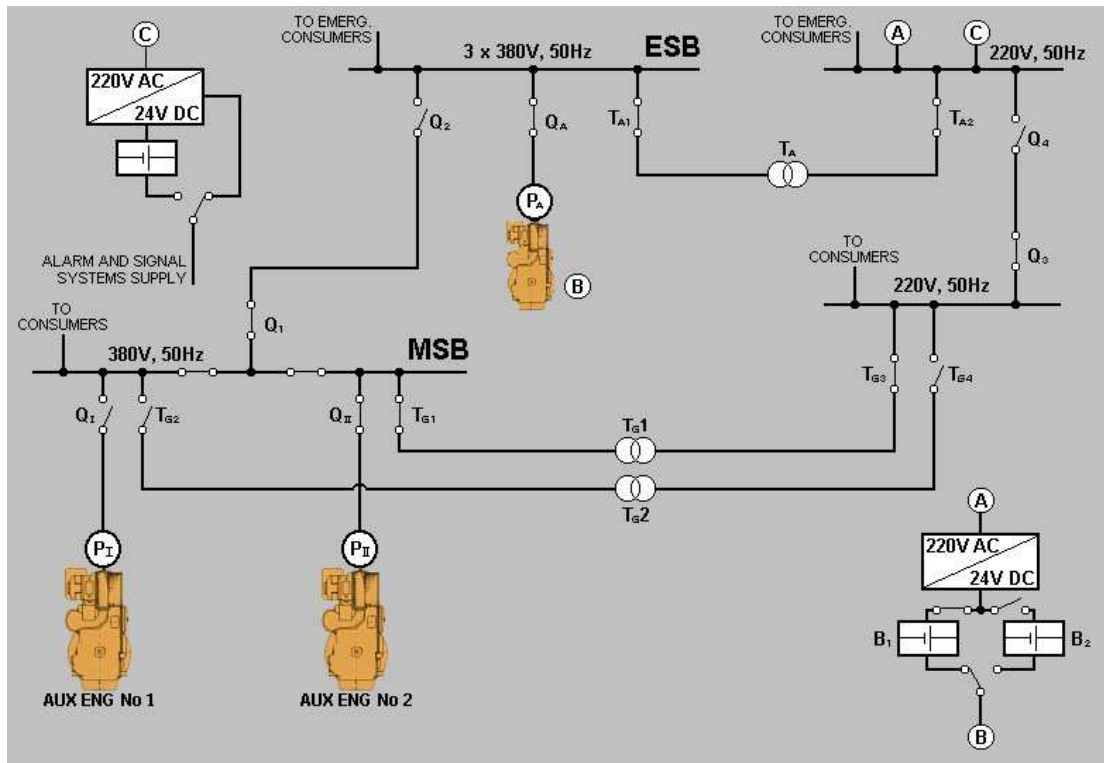

Fig. 4.23 Generator’s electric diagram
- g. electric diagram panel Fig. 4.23